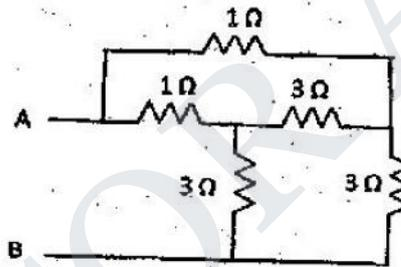

Fig. 2
- (ii) Find the equivalent resistance between the terminals A and B of Fig. 2, using star-delta transformation. (8)